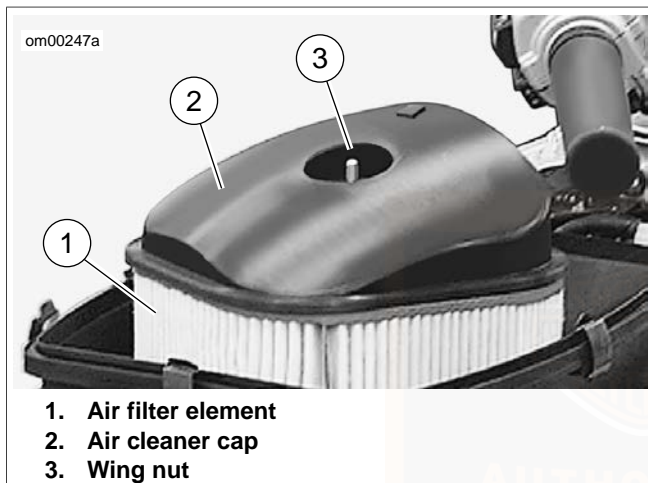

Figure 43. Air Cleaner Assembly: VRSC Models
5. See Figure 43. Unscrew the wing nut securing the air cleaner cap. Remove the air cleaner cap and paper/wire mesh air filter element.